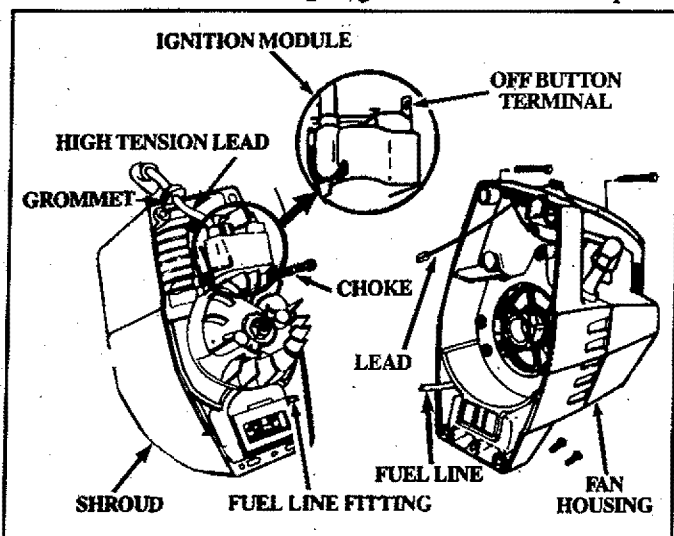

Figure 26
3. Remove the four screws from fan housing. Figure 26.
4. Carefully separate fan housing from shroud about one (1) inch.
5. Disconnect fuel line from fitting. Figure 26.
6. Disconnect lead from "off" button terminal on ignition module. Figure 26.
7. Slide high tension lead grommet from slot in fan housing. Figure 26.